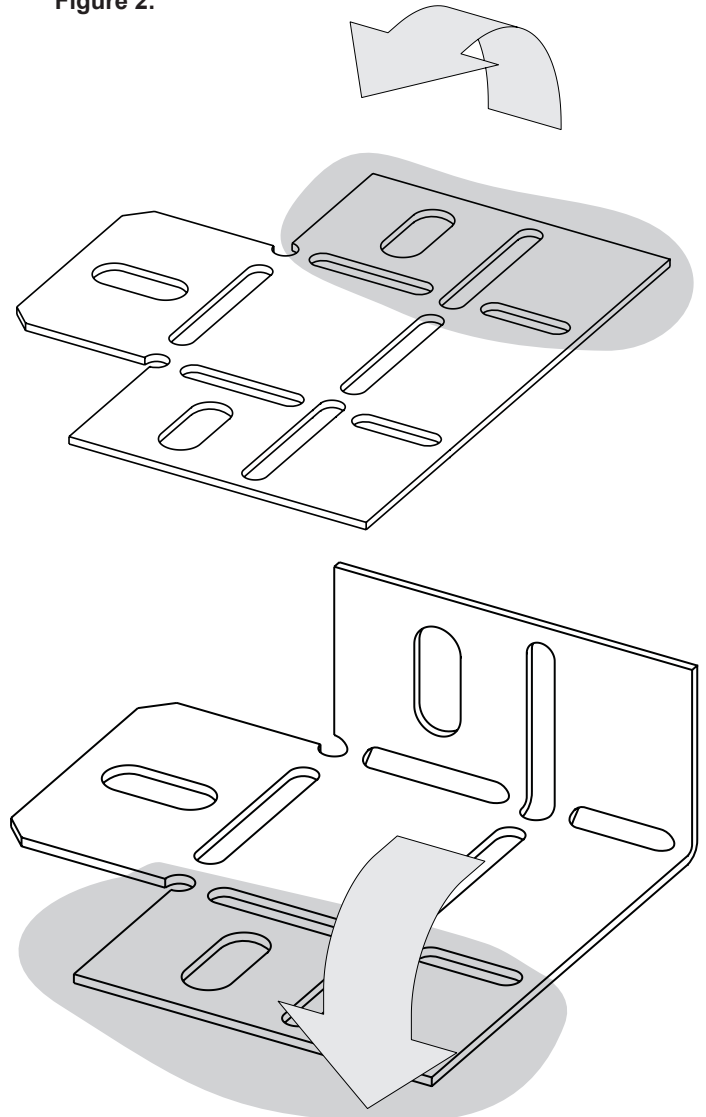

Figure 2 - Style B
- 4b. If you have purchased a Stacked Limestone or Stacked Field-stone style liner kit, bend the upper liner bracket as shown in **Figure 2**.